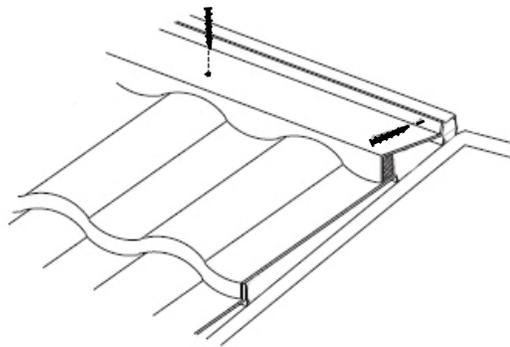

Figure 2.
- 4- Install mission trim with two 8d (.131) x 2-3/8" ring shank nails or #10 x 2-1/2" screws through the ridge cap and into nailer. *See Figure 2 below.*